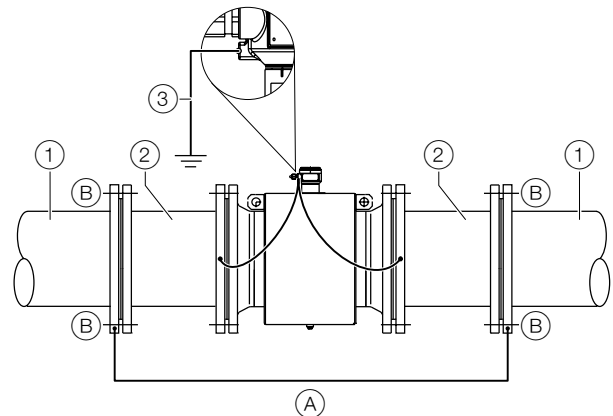

Figure 25 Flowmeter sensor with functional earth
- If the occurrence of external stray currents is to be expected in pipelines with internal insulation (e.g. in the case of long pipe sections in the vicinity of power supply units), an uninsulated pipe of approx. $1/4 \times \text{DN}$ of length should be provided upstream and downstream of the flowmeter sensor in order to deviate these currents away from the measuring system (Fig. 25).
This mixed system has an insulated pipeline with corrosion protection potential and an uninsulated bar metal pipe ($L = 1/4 \times \text{flowmeter sensor size}$) with functional earth potential upstream and downstream of the flowmeter sensor. The Fig. 25 shows the preferred installation for cathodic corrosion protection systems.